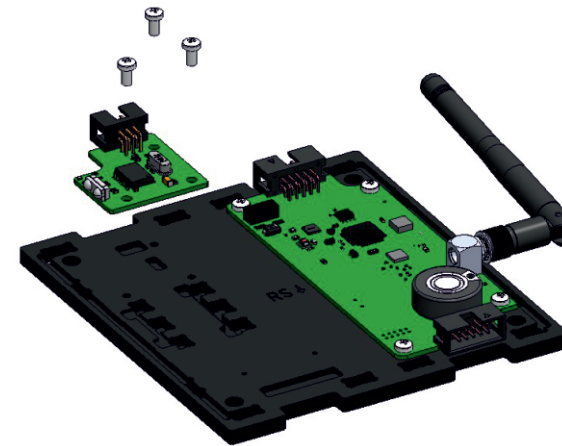

Fig. 26: Installing the HF circuit board
3) Place the HF board to the bottom base plate and secure it using M3x6 cylindrical-head screws (Fig. 26):